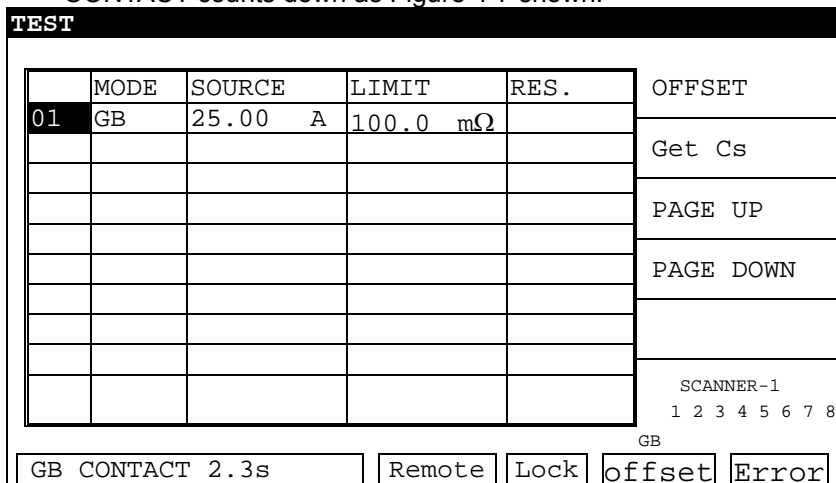

Figure 4-7
- After DUT is connected, press [Stop] [Test] to start test, meanwhile, GB CONTACT counts down as Figure 4-7 shown.